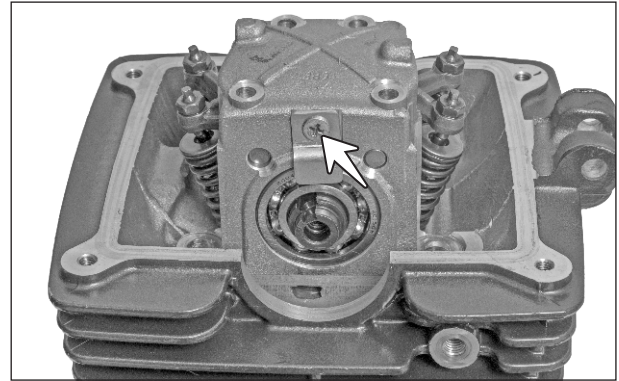

Fig. 3.47
- Remove the REC CSK head screw (M5x15 - 1 no.) from the stopper camshaft and dislocate and take out the stopper camshaft. (Fig. 3.47)